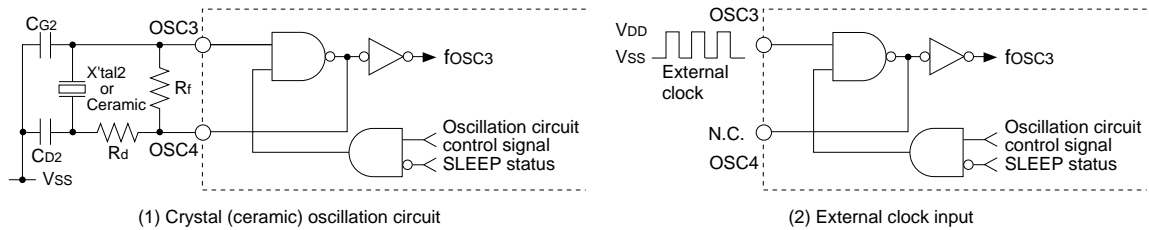

Figure II.6.2 High-Speed (OSC3) Oscillation Circuit
Figure II.6.2 shows the structure of the high-speed (OSC3) oscillation circuit.
When using a crystal (ceramic) oscillation for this circuit, connect a crystal (X'tal2) or ceramic (Ceramic) resonator, a feedback resistor (Rf), two capacitors (CG2, CD2), and a drain resistor (Rd), if necessary, to the OSC3 and OSC4 pins and VSS as shown in Figure II.6.2 (1).